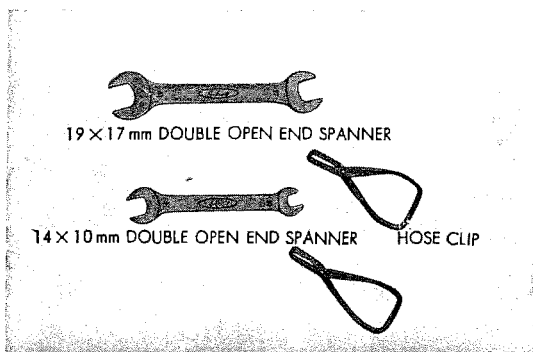

Fig. 6.17 Tools required to inspect the fuel system
- a. Tools required. (Refer to Fig. 6.17)